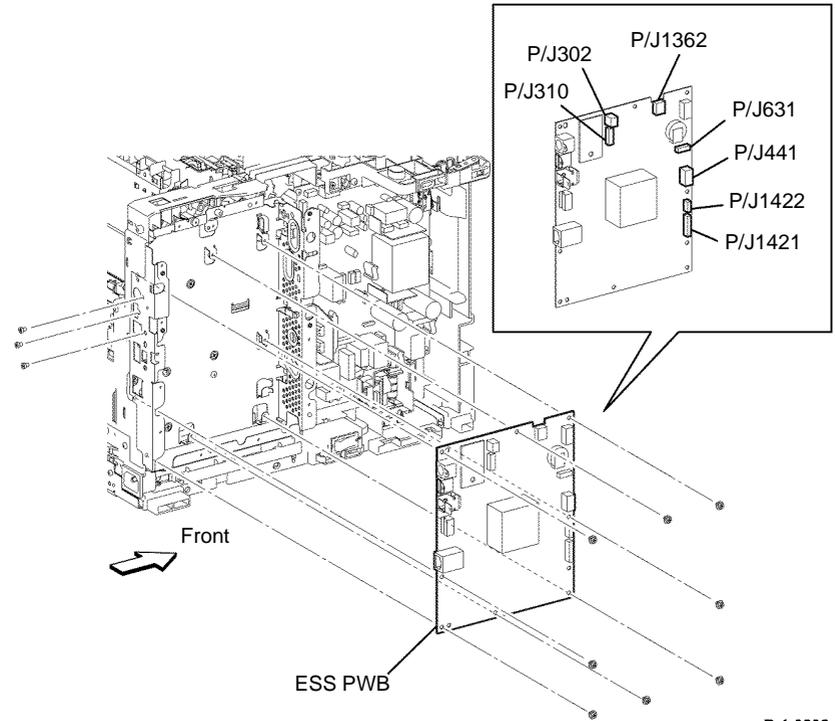

Figure 4 ESS PWB removal
16. Disconnect all connectors from the ESS PWB, Figure 4.
17. Remove eight screws (silver with spring washer and plain washer, M3, 6mm) and three screws (silver, M3, 4mm), then remove the ESS PWB, Figure 4.